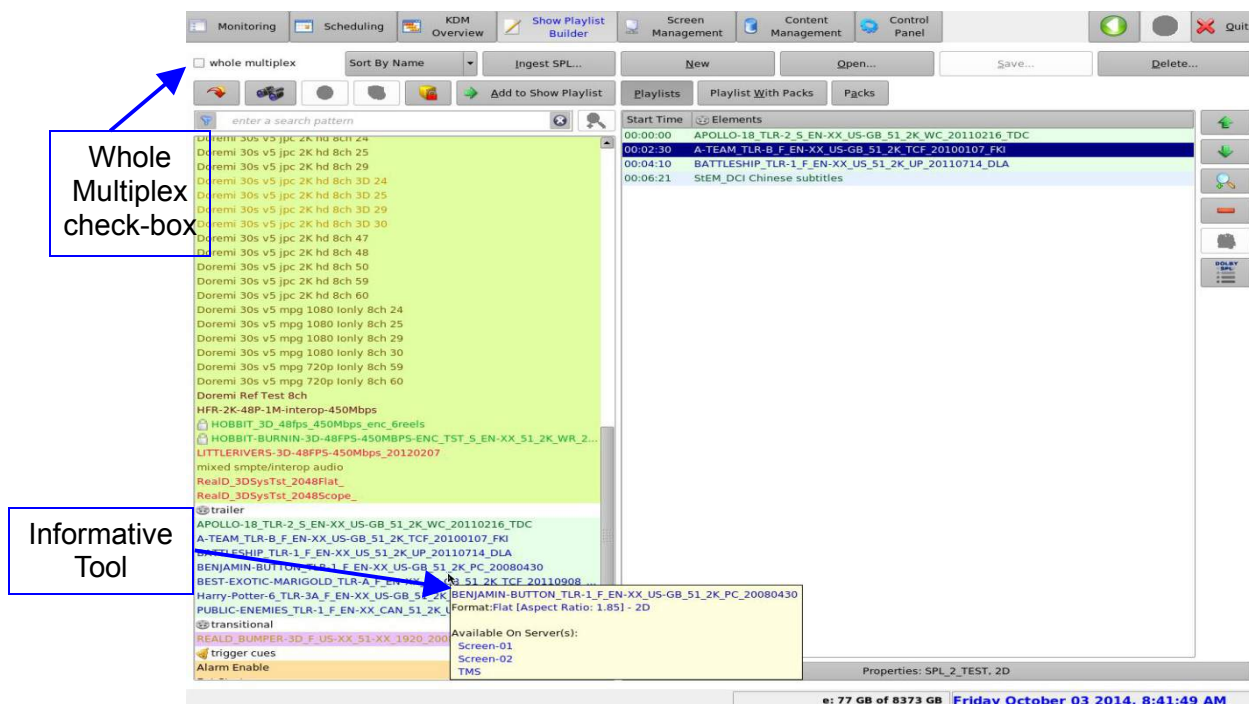

Figure 46: Show Playlist Builder Tab
- To enter the Show Playlist Builder tab, click on Show Playlist Builder at any time during the TMS GUI usage (Figure 46).
Note: Content type is differentiated by color and font. Pointing to a certain content will make an informative tool-tip showing the format and location available (Figure 46).